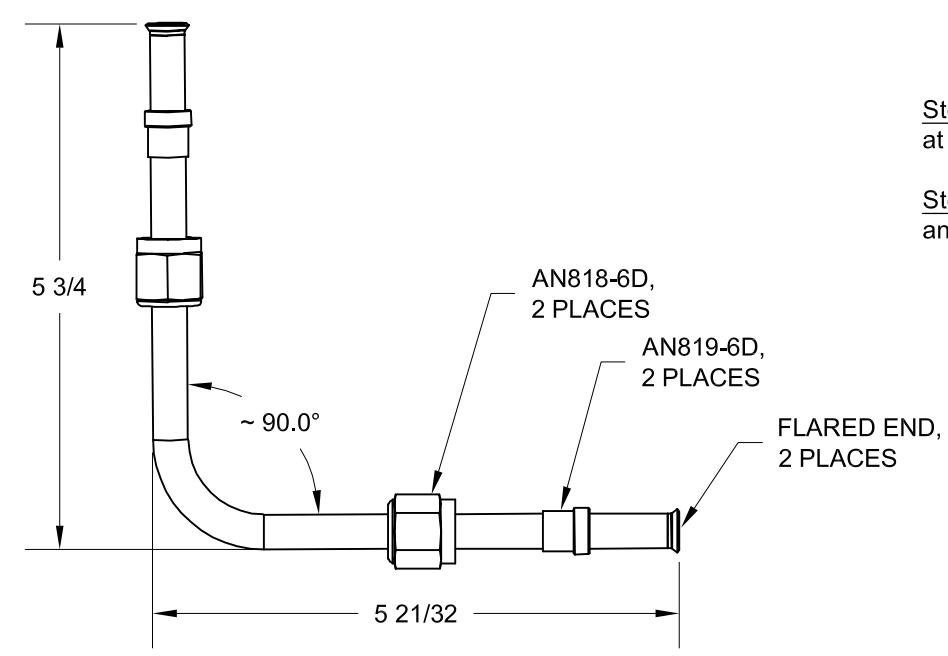

FIGURE 2: THE UPPER BEND
Step 3: Bend the tube to obtain the approximate dimensions shown in Figure 2. Then slide an AN818-6D Nut and a AN819-6D Sleeve onto the unfinished end. At that same end flare the tube and repeat Step 2 and Step 3 on the remaining fuel line.